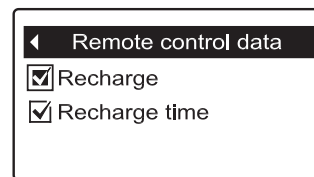

FIG. 119
4. Press the SELECT (○) button to display the Remote control data screen (See Figure 119).